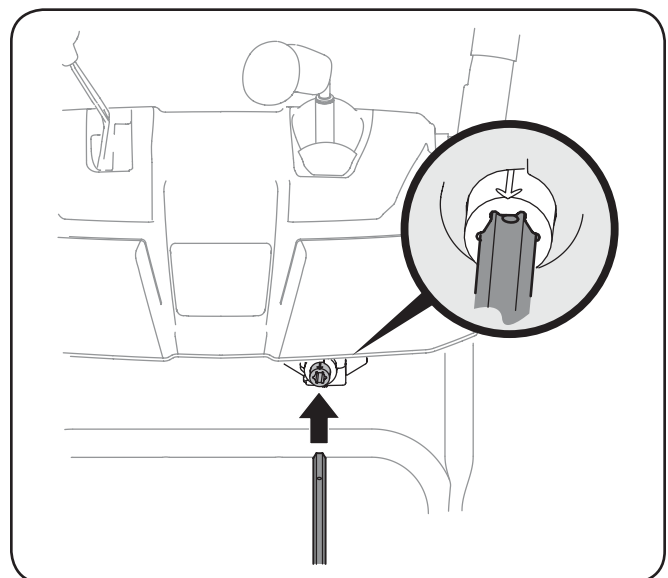

Figure 3-11
- Insert the chute control rod into the pinion gear below the joystick. Make sure to line up the hole in the rod with the arrow on the pinion gear. See Fig. 3-11.